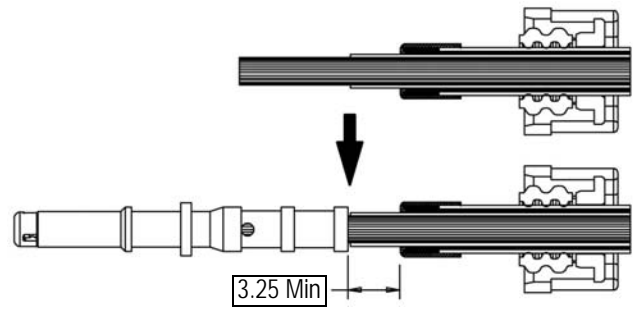

Figure 8
7. Insert the pin terminal assembly 1587556-[ ] over the exposed conductor strands as shown in Figure 8.
There must be 3.25 mm minimum clearance between the terminal and ferrule/shield braid as shown in Figure 8.